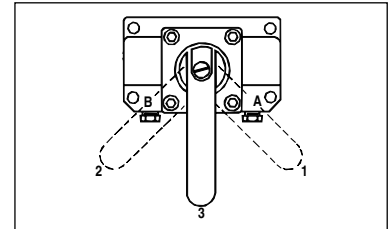

Figure 1
**VM33, VM33L, VM43, VM43L (See Fig. 1)**